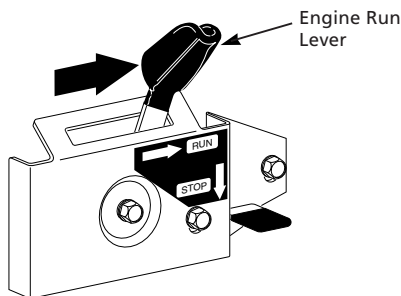

Figure 19 - Engine Run Lever
3. Move engine run lever to the RUN position (See Figure 19).